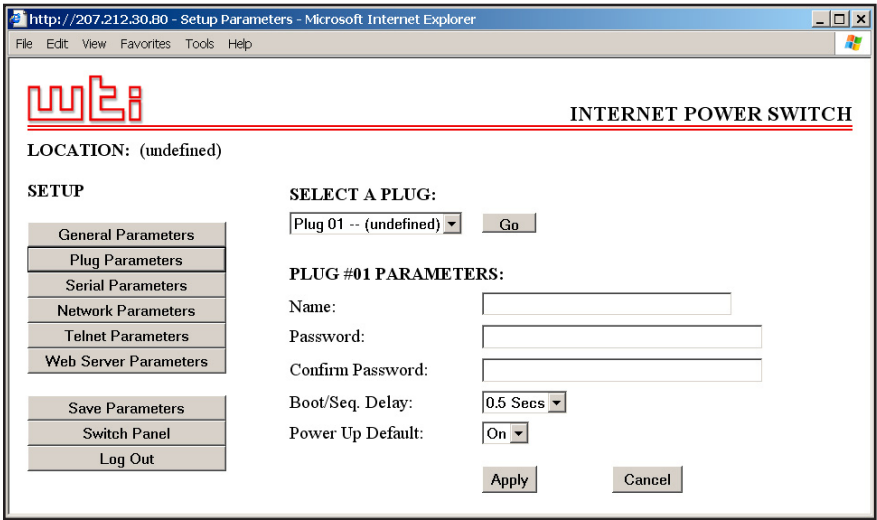

Figure 5.7: Plug Parameters Menu - Web Browser Interface
- **Web Browser Interface:** Click the "Setup" button to access the configuration menus, then click the "Plug Parameters" button. The Plug Parameters Menu will be displayed as shown in Figure 5.7.